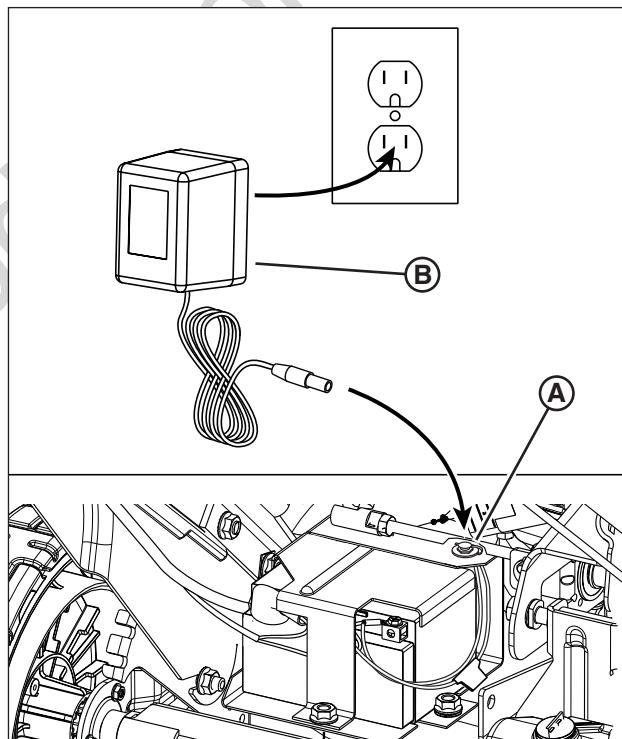

Figure 13: Charging the battery
1. Remove the dust cap from the charger jack (**A**, **Figure 13**).